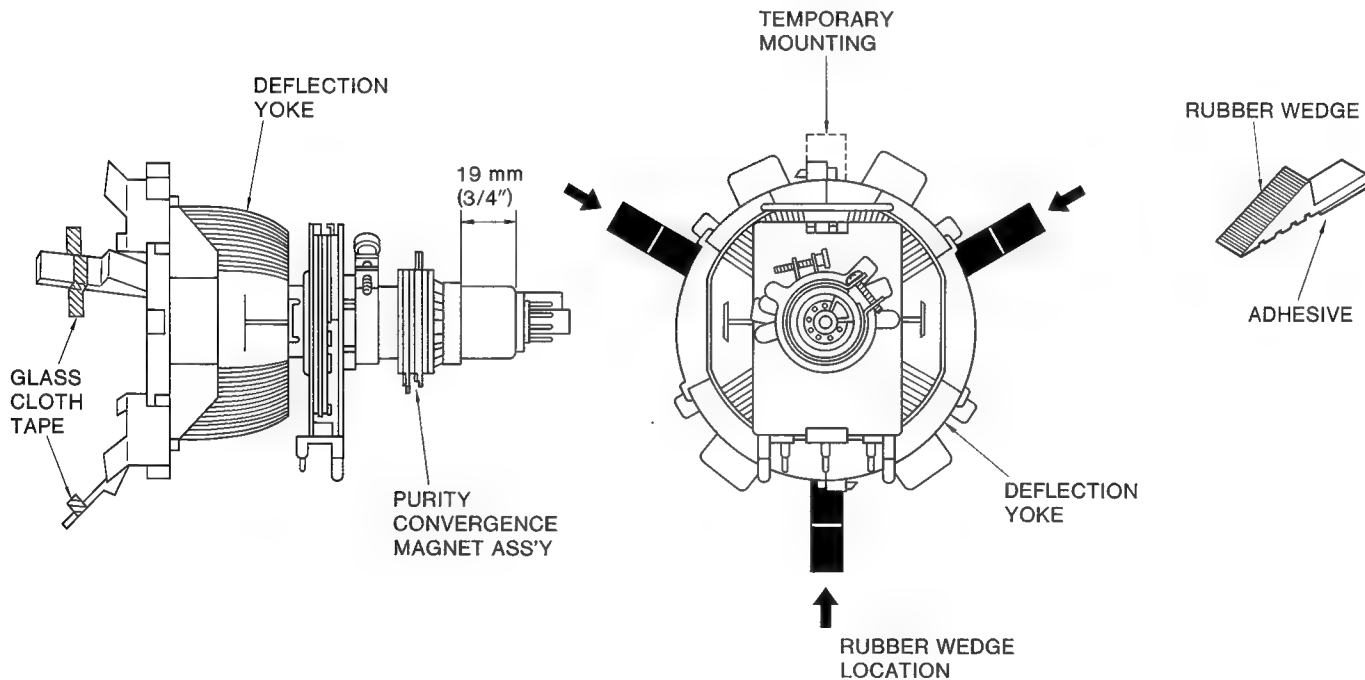

Figure 8.
2. Temporarily put a wedge as shown in figure 8. (Do not remove cover paper on adhesive part of the wedge.)
9. Stick three adhesive tapes on wedges as shown in figure 8.